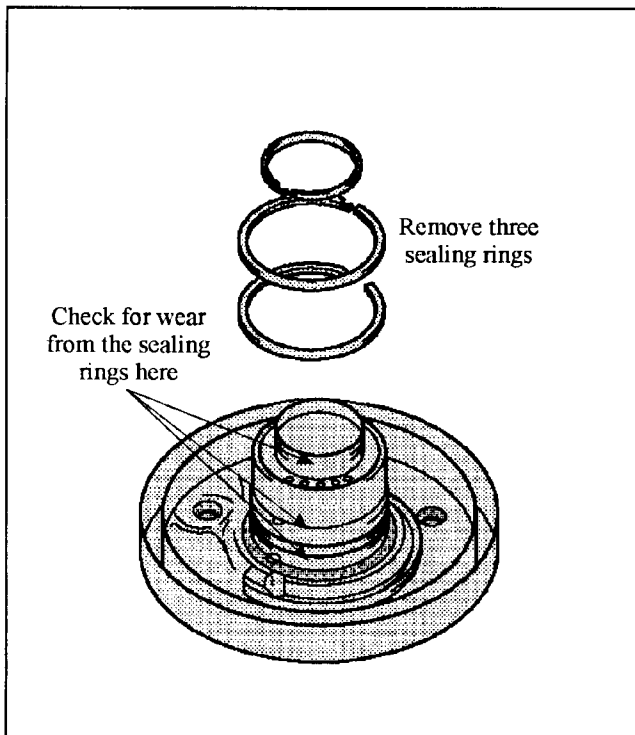

Figure 70
1. Remove the three sealing rings from the stator housing and check the sealing ring groove areas for any signs of wear (See Figure 70).